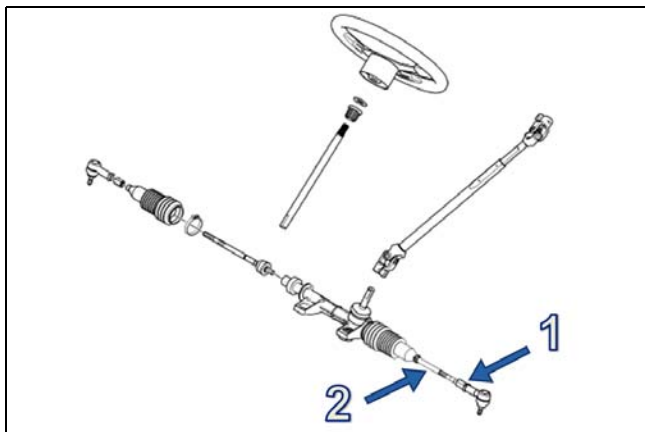

Figure 17
To adjust the UTV, first unscrew the nut (1) of the coupling rod of the vehicle's direction system (2), screw or unscrew the coupling rod of an equal number of revolutions on the both sides of the vehicle. See Figure 17.